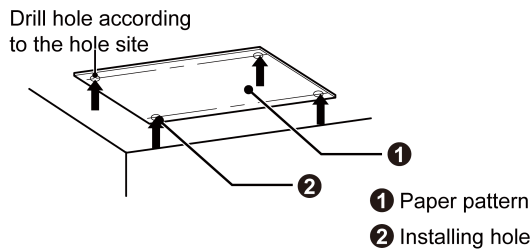
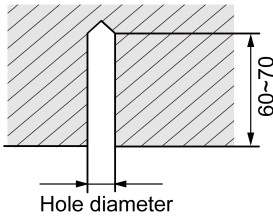

Fig.4.1.2
Fig.4.1.3
1)Stick the reference cardboard on the installation position; drill 4 holes according to the hole site on the cardboard as shown in Fig.4.1.2; diameter of drilling hole is according to the diameter of expansion bolt and the depth is 60-70mm, as shown in Fig.4.1.3.